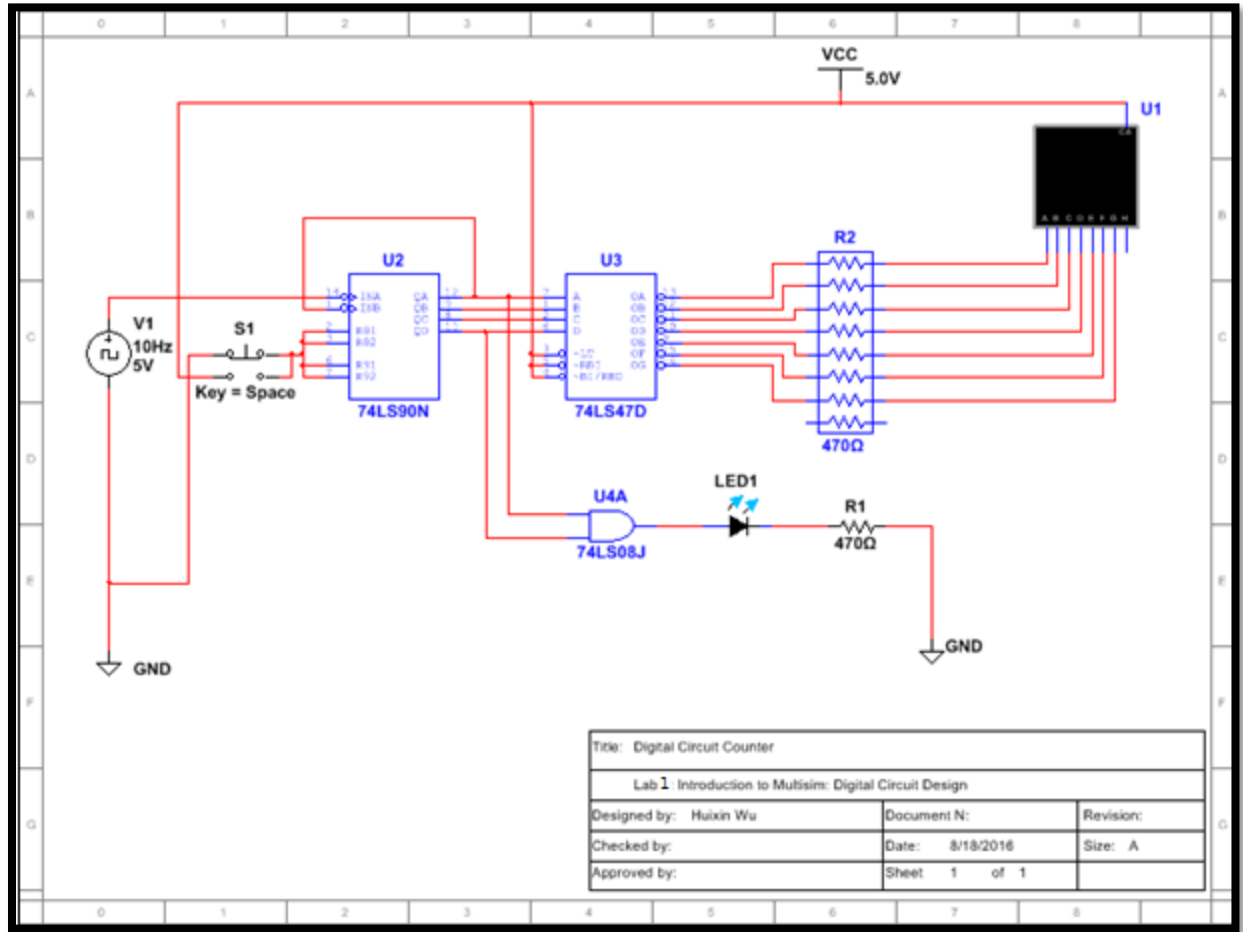

Figure 1.3 – Complete Digital Counter in Multisim
7. **Finalizing the workspace.** Take the grid off the workspace by clicking on **View** and uncheck the **Grid** box. The final workspace should look as Figure 1.3: